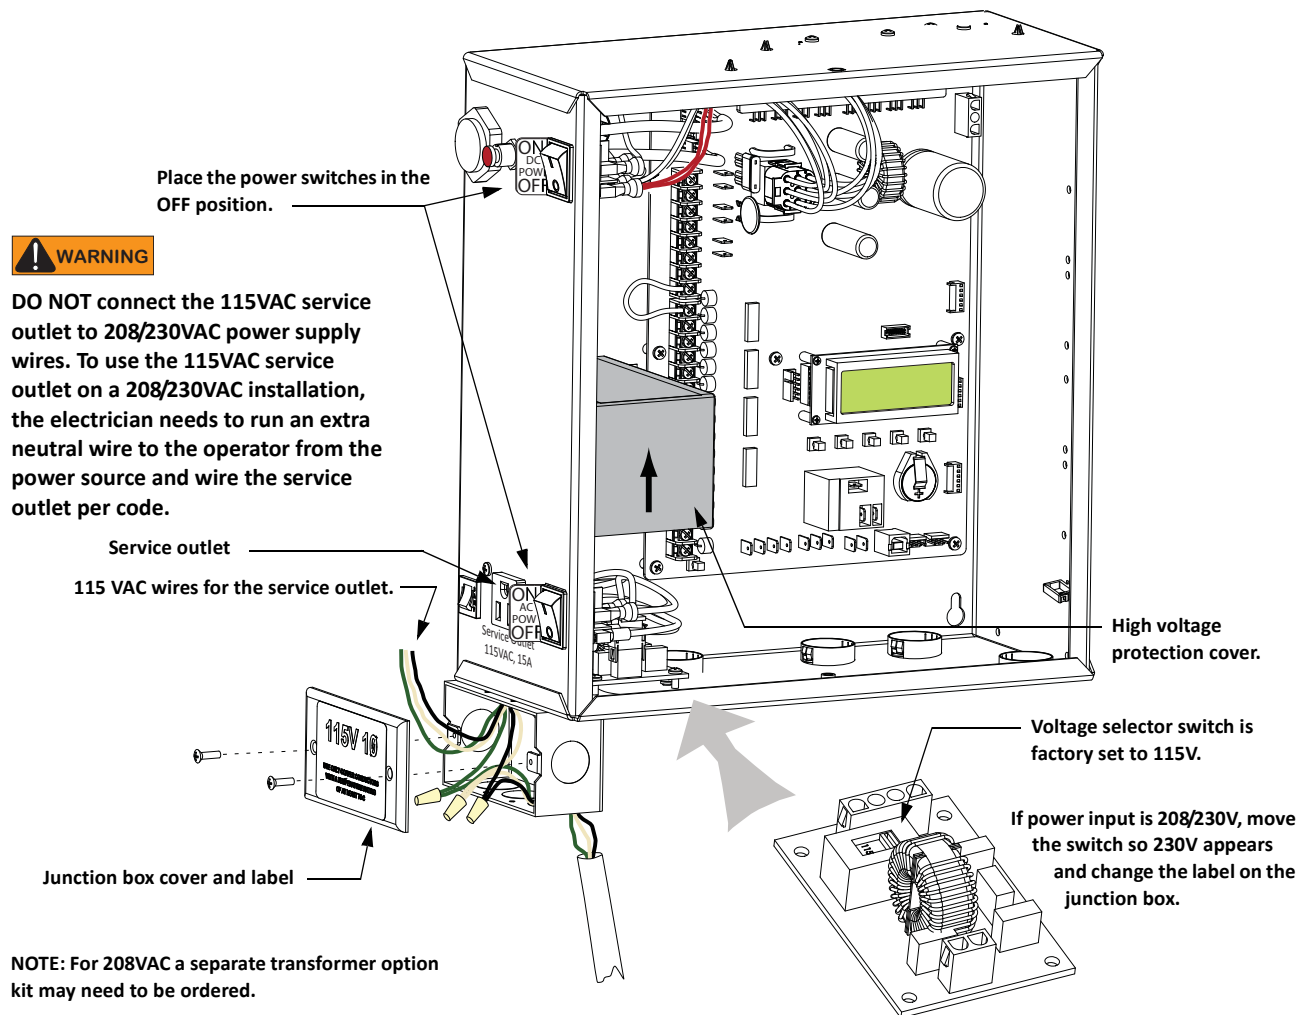

Figure 2-2.
Turn off AC power at the source (circuit breaker panel) before accessing the wires in the SlideSmart junction box. Follow facility Lock Out/Tag Out procedures. Make sure both the DC and AC power switches, on the side of the SlideSmart control box are in the off position. See Figure 2-2.
Wiring of gate operators must conform to the NEC standards and comply with all local codes. If you plan to connect to 208/230VAC power, read the WARNING in Figure 2-2. The voltage selector switch on the AC Power board must be moved to the 230V position or damage to the operator will occur and void the Limited Warranty.
2. Access the input power wires and service outlet wires by removing the two Phillips-head screws that secure the high voltage junction box cover. See Figure 2-2.
3. Wire nut or crimp bond the power supply wires to the black and white lead wires coming from the AC power switch (no label). See Figure 2-2.
2. Remove the High Voltage Protection cover by unscrewing the two Phillips-head screws that secure it. See Figure 2-2.
4. Access the input power wires by removing the two Phillips-head screws that secure the High Voltage Junction Box Cover. See Figure 2-2.